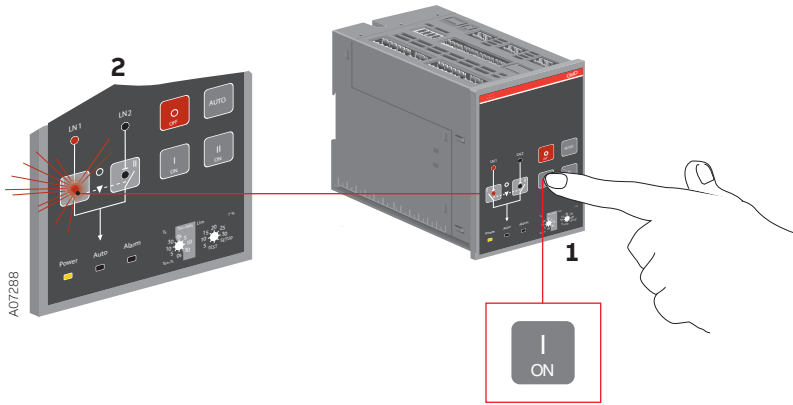

Figure 6.2 Selecting the switch to operate, the switch status and the chosen line indication with LEDs in OMD200 or OMD300
- b When pushing the I-key (see the Figure 6.2 /①, the I-switch will be in the ON position (the status and the line indication, see the Figure 6.2 /② and the II-switch will be in the OFF position. If the I-switch is already in the ON position, pushing the I-key does not have any influence.